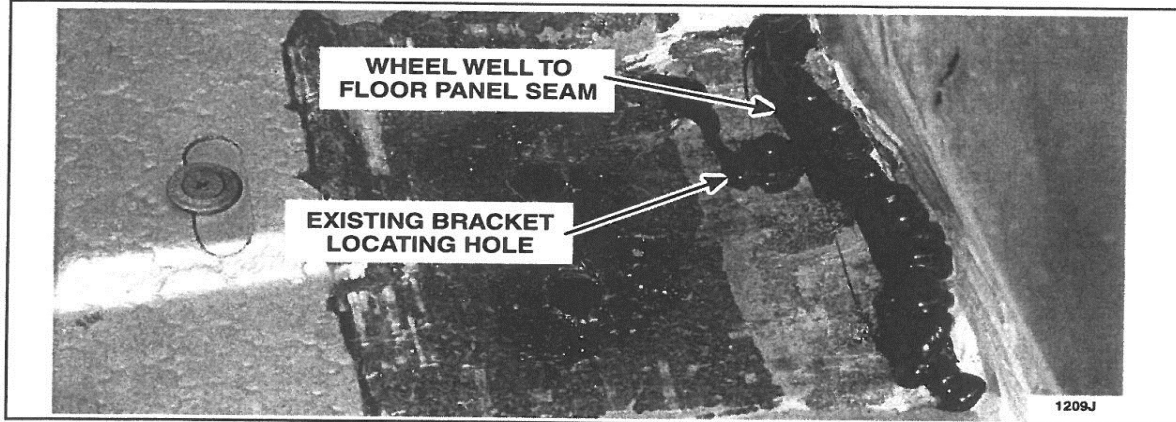

FIGURE 17
35. Clean the wheel well to floor panel seam in the area where the *new* RH and LH 3rd row seat striker brackets will be installed. Apply a bead of urethane seam sealer to the seam and to the existing bracket locating hole. See Figure 17.